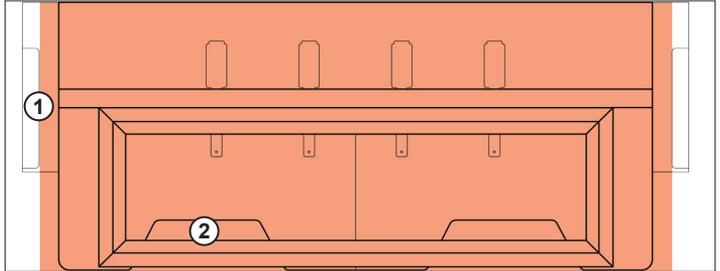
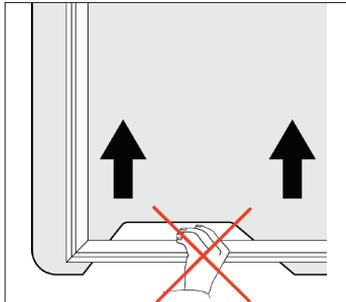

Abb. 46: Working range of pantograph
Abb. 47: Risk of crushing against pantograph frame (Work table recess)
- CAUTION! - The pantograph travels at a very high speed. Do not rest on the work table or lean against the table recesses within the working range of the pantograph (Abb. 46) A collision with the high-speed pantograph can cause bruising and injuries resulting from crushing or shear forces. (Abb. 47).
- Caution! - The pantograph travels at a very high speed. Do not rest on the work table or lean against the table recesses within the working range of the pantograph (*Abb. 46*) A collision with the high-speed pantograph can cause bruising and injuries resulting from crushing or shear forces. (*Abb. 47*).
Keep your hands well away from the insides of supports (1), the table recesses (2) and pantograph guide slot (3) because of the risk of injury. Also see (*Abb. 47*).